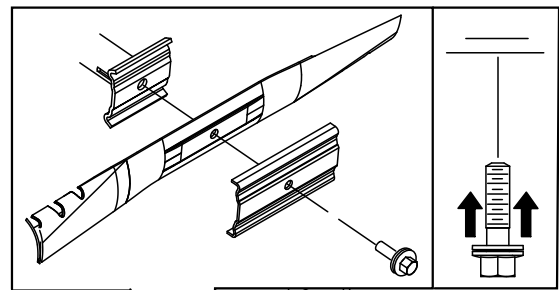

Figure 29
5. Install the new blade (turn the blade bolt clockwise) and all mounting hardware (Figure 29).